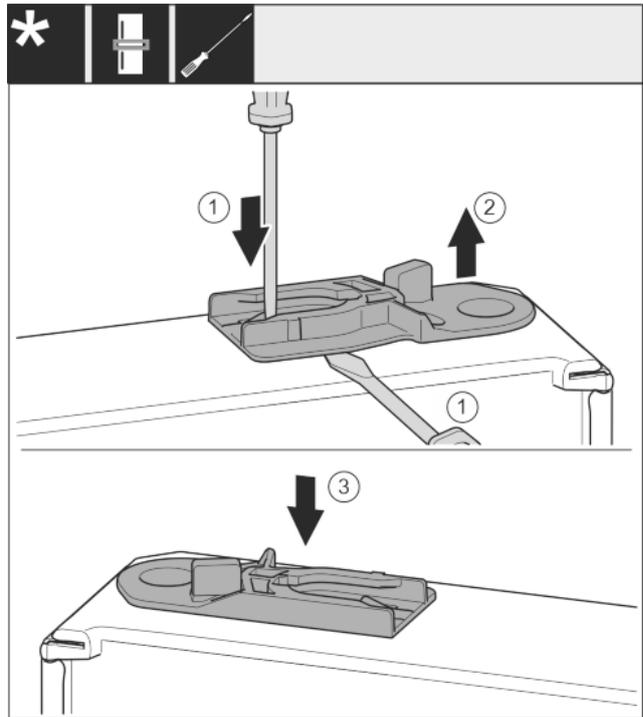

Fig. 29
- ▶ Pull out the guide bush: Press the lug with a slotted screwdriver and, at the same time, insert the slotted screwdriver under the guide bush. *Fig. 29 (1, 2)*
- ▶ Slide the guide bush included in the scope of supply to the other side of the housing. *Fig. 29 (3)*